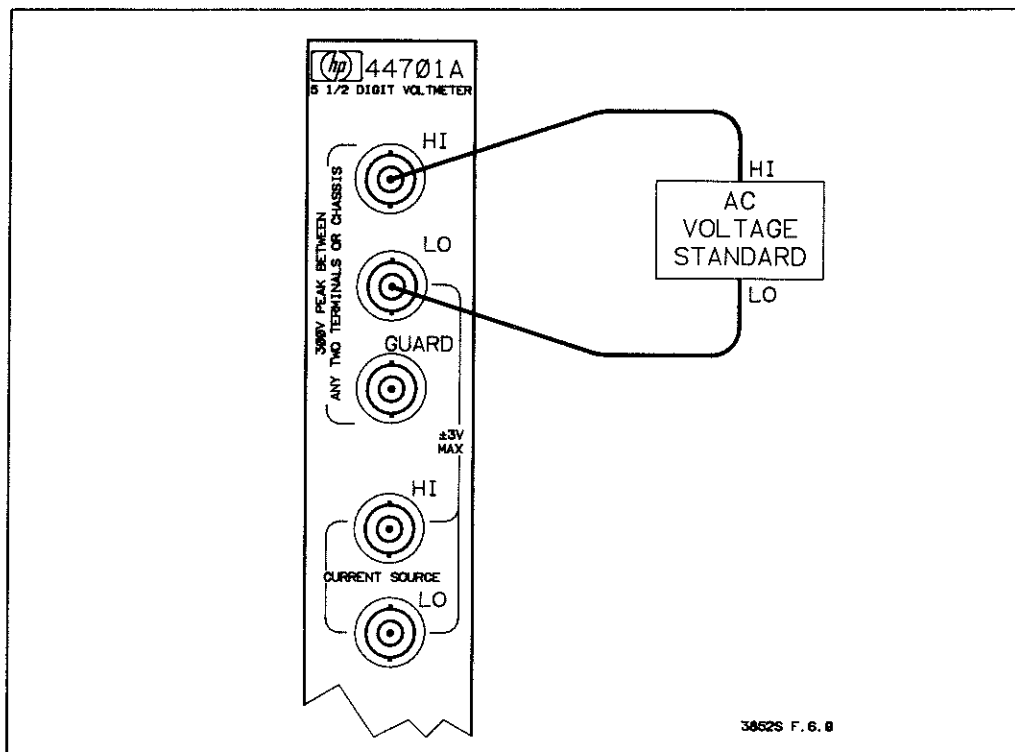

Figure 6-9 AC Voltage Gain Calibration
11. Make sure the AC Voltage Standard output is turned off or set the output to 0 volts. Then connect the AC Voltage Standard to the rear HI and LO Input Terminals of the HP 44701A Integrating Voltmeter accessory. The connections are shown in Figure 6-9.